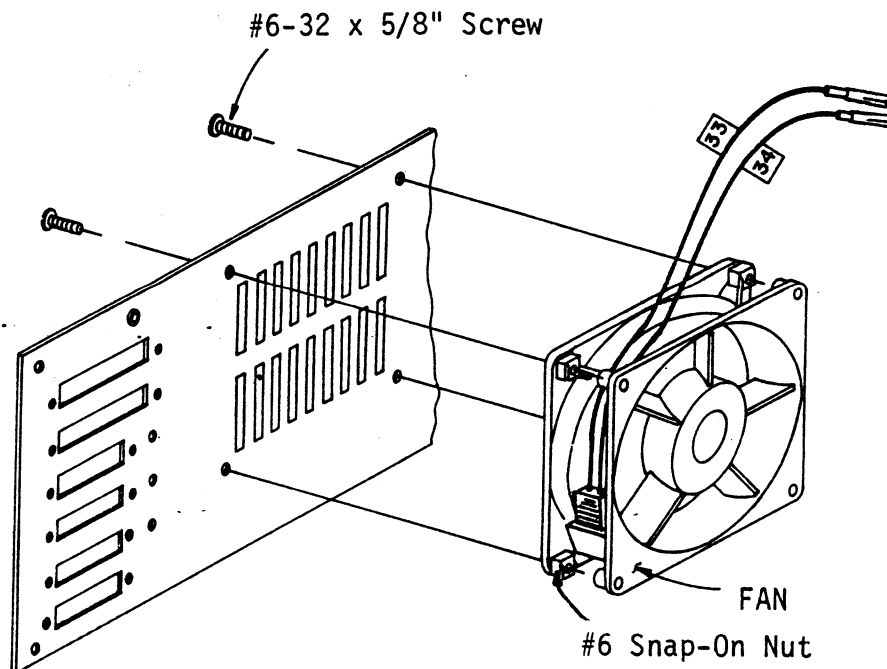

Figure 5-52. Fan Mounting
5-61. FAN MOUNTING (Figure 5-52)
- ✓ 1. Before mounting the fan to the back panel, install the female plug onto the terminals as shown in Figure 5-52. If your kit does not supply a plug, solder two 20-inch lengths of 22-18 gauge wire to the terminals.